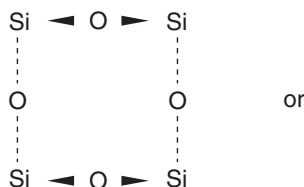

Figure 1 A 'square' ring containing 4 silicons
- 3 Now form a ring containing the four silicon atoms by making them share oxygen atoms (Figure 1). Join one silicon to another by removing an oxygen and forming a Si–O–Si linkage. In the card model, we shall represent this structure with a square. The corners will represent the silicons with 'spare' oxygens; the edges will represent the non-linear Si–O–Si linkage.
You have seen how Si and O atoms can make rings that are square (Figure 1) or hexagonal (Figure 2).